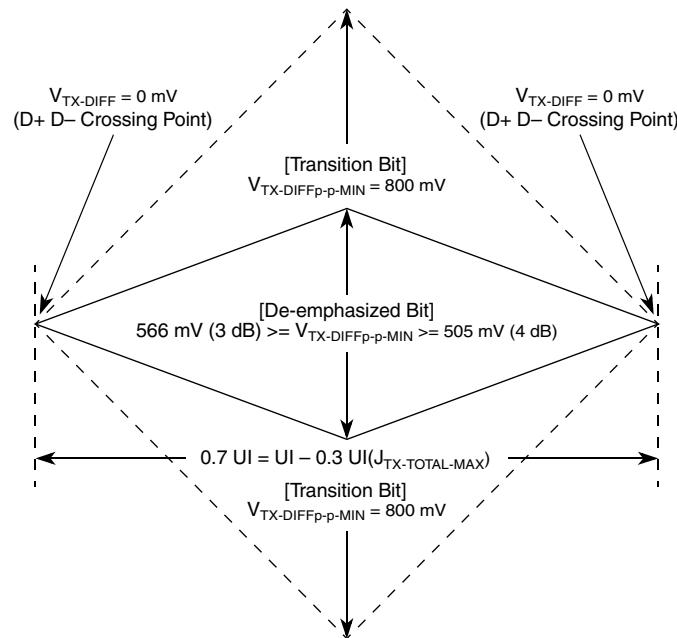
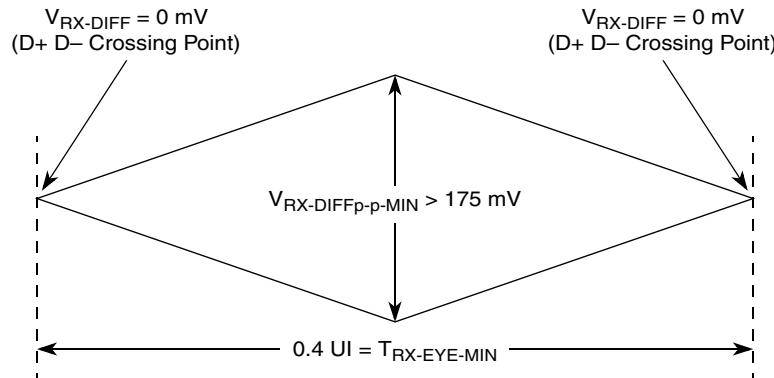
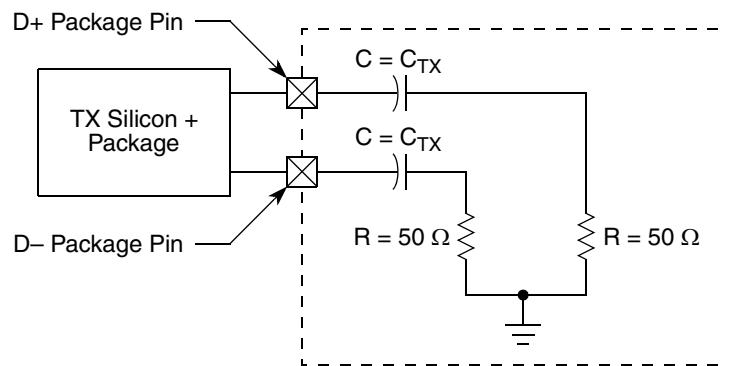

Figure 42. Minimum Transmitter Timing and Voltage Output Compliance Specifications
Figure 43. Minimum Receiver Eye Timing and Voltage Compliance Specification
Figure 44. Compliance Test/Measurement Load
2. Specified at the measurement point into a timing and voltage compliance test load as shown in Figure 44 and measured over any 250 consecutive Tx UIs. (Also refer to the transmitter compliance eye diagram shown in Figure 42.)
4. The transmitter input impedance will result in a differential return loss greater than or equal to 12 dB and a common mode return loss greater than or equal to 6 dB over a frequency range of 50 MT/s to 1.25 GHz. This input impedance requirement applies to all valid input levels. The reference impedance for return loss measurements is 50 Ω to ground for both the D+ and D- line (that is, as measured by a vector network analyzer with 50- Ω probes, see Figure 44). Note that the series capacitors, C_{TX} , is optional for the return loss measurement.
5. Measured between 20%–80% at transmitter package pins into a test load as shown in Figure 44 for both V_{TX-D+} and V_{TX-D-} .
The Tx eye diagram in Figure 42 is specified using the passive compliance/test measurement load (see Figure 44) in place of any real PCI Express interconnect + Rx component. There are two eye diagrams that must be met for the transmitter. Both diagrams must be aligned in time using the jitter median to locate the center of the eye diagram. The different eye diagrams differ in voltage depending on whether it is a transition bit or a de-emphasized bit. The exact reduced voltage level of the de-emphasized bit is always relative to the transition bit.
2. Specified at the measurement point and measured over any 250 consecutive UIs. The test load in Figure 44 should be used as the Rx device when taking measurements (also refer to the receiver compliance eye diagram shown in Figure 43). If the clocks to the Rx and Tx are not derived from the same reference clock, the Tx UI recovered from 3500 consecutive UI must be used as a reference for the eye diagram.
4. The receiver input impedance will result in a differential return loss greater than or equal to 10 dB with the D+ line biased to 300 mV and the D– line biased to –300 mV and a common mode return loss greater than or equal to 6 dB (no bias required) over a frequency range of 50 MT/s to 1.25 GHz. This input impedance requirement applies to all valid input levels. The reference impedance for return loss measurements for is 50Ω to ground for both the D+ and D– line (that is, as measured by a vector network analyzer with 50Ω probes, see Figure 44). Note that the series capacitors, C_{Tx} , is optional for the return loss measurement.
The Rx eye diagram in Figure 43 is specified using the passive compliance/test measurement load (see Figure 44) in place of any real PCI Express Rx component. In general, the minimum receiver eye diagram measured with the compliance/test measurement load (see Figure 44) is larger than the minimum receiver eye diagram measured over a range of systems at the input receiver of any real PCI Express component. The degraded eye diagram at the input receiver is due to traces internal to the package as well as silicon parasitic characteristics that cause the real PCI Express component to vary in impedance from the
compliance/test measurement load. The input receiver eye diagram is implementation specific and is not specified. Rx component designer should provide additional margin to adequately compensate for the degraded minimum receiver eye diagram (shown in Figure 43) expected at the input receiver based on an adequate combination of system simulations and the return loss measured looking into the Rx package and silicon. The Rx eye diagram must be aligned in time using the jitter median to locate the center of the eye diagram.
The reference impedance for return loss measurements is 50Ω to ground for both the D+ and D– line (that is, as measured by a Vector Network Analyzer with 50Ω probes—see Figure 44). Note that the series capacitors, $C_{PEACCTX}$, are optional for the return loss measurement.
The AC timing and voltage parameters must be verified at the measurement point, as specified within 0.2 inches of the package pins, into a test/measurement load shown in Figure 44.